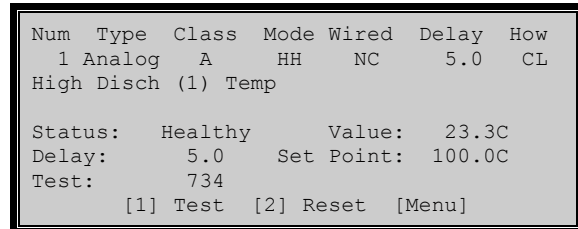

Figure 7-3
- (f) The appropriate Shutdown Screen (Figure 7-3) will be displayed.
- (j) From the Shutdown screen (Figure 7-3), choose [2] RESET to reset the time (to 1200 seconds) for all inputs in the Test mode.